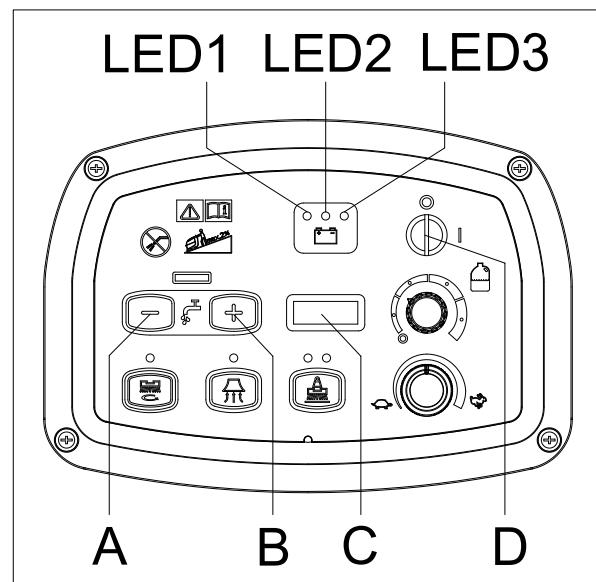

Figure 4
1. Press both the buttons (A, Figure. 4) and (B) at the same time, Insert the ignition key (D) and turn on the power, after 0.5 second, enter battery setting mode. LED display during setting(C) ,Release the buttons.
2. The mode can be shift from 0 to 5 by pressing button (B), or shift from 5 to 0 by pressing button (A). After the battery mode setting is completed, turn off the power (D) and the new setting of battery mode can be saved automatically.